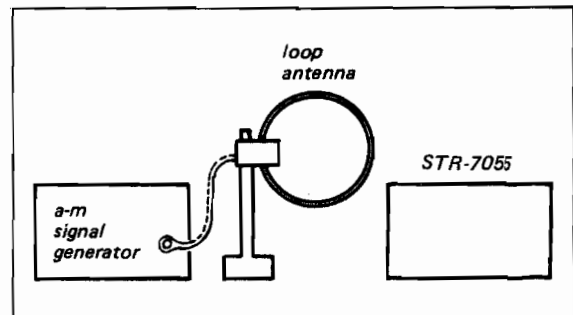

Fig. 3-8. Tuning meter calibration test setup
2. Connect the test equipment as shown in Fig. 3-8.